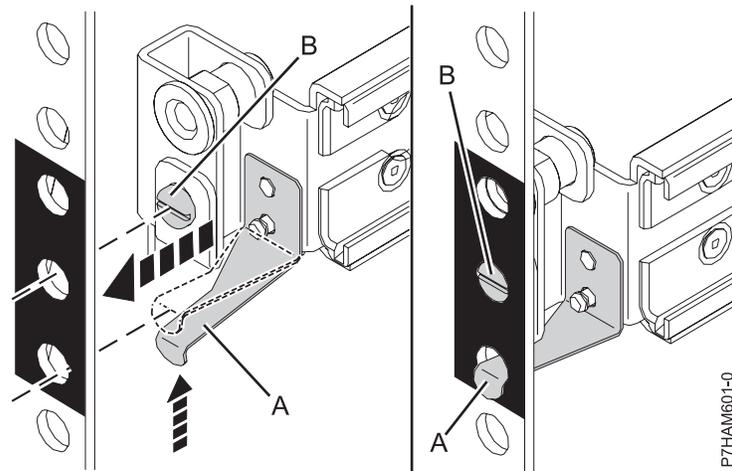

Figure 6. Mounting the rail to the front of the rack
- The tension clip (A) points toward the front of the rack and aligns with the bottom EIA hole that you marked previously, as shown in Figure 6 on page 9.
- c. Bend the tension clip (A) up and insert it into the bottom EIA hole that you marked previously, as shown in Figure 6 on page 9. Ensure that the lip of the clip is brought fully through the hole and clasped against the bottom of the hole. Seat the alignment screw (B) in the middle EIA hole that you marked previously.
**Note:** There are two sizes of alignment screws (B). If your rack has round mounting holes, use the smaller alignment screw for each rail. If your rack has square mounting holes, use the larger